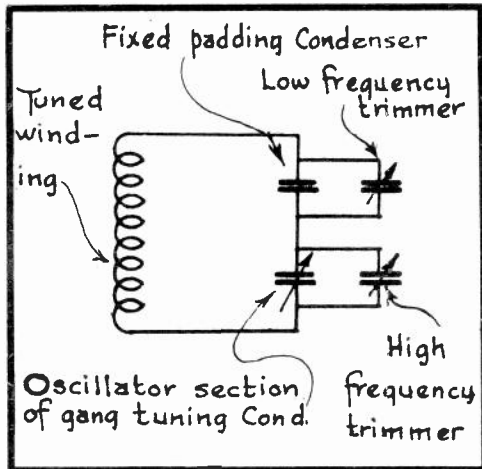

FIG. 2
2. - THE ADJUSTMENTS FOR THE OSCILLATOR TUNING CIRCUIT IN THE CONVENTIONAL TYPE OF SUPERHETERODYNE RECEIVER ARE POINTED OUT TO YOU IN FIG. 2.